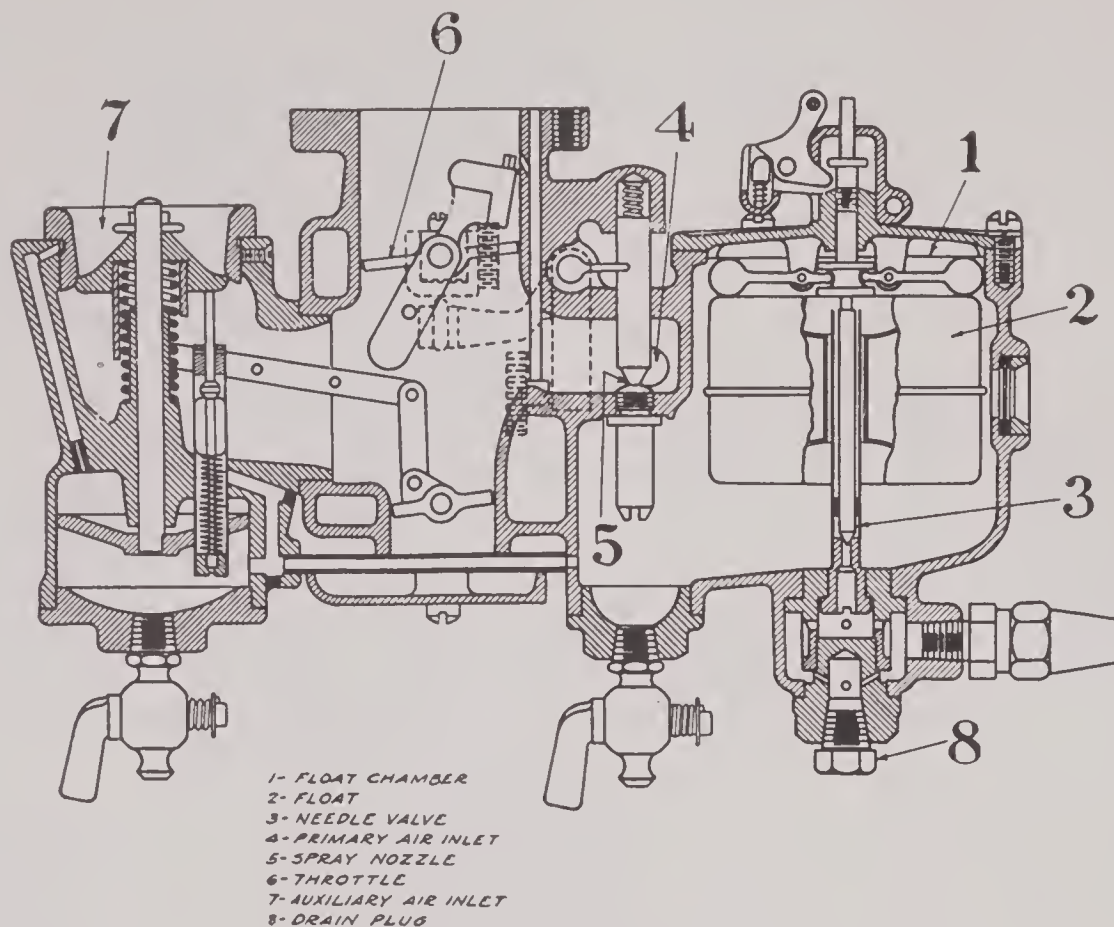

FIG. 79
The model of Rayfield carburetor shown in Fig. 79 supplies the fuel through two different passages. One supplies all the gasoline required when the engine is idling and at low speed. This is through the spray nozzle (5). The additional gasoline required for higher speeds is furnished through a tube which is controlled by a tapered metering pin located under the automatic air valve (7).